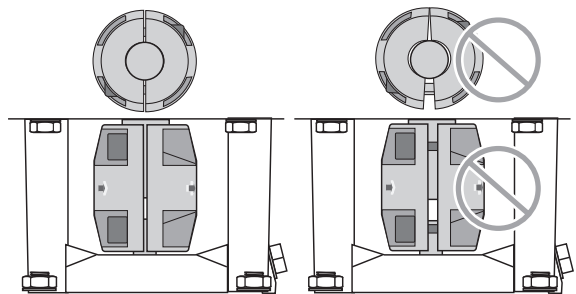

Figure 8 - Make Sure that the coupling halves are evenly tightened
13. Reinstall the coupling (43) on the pump and motor shaft. If the pump has a shaft pin, the pin axially locates the pump shaft. If the pump does not have a shaft pin, then set the coupling so that it grips equal lengths of the pump and motor shaft.
14. Tighten the coupling's socket head cap screws (73). **Note:** Torque settings are critical to prevent coupling movement. If the coupling is not tightened to the correct torque, it could slip on the shaft and overheat and damage both the coupling and the shaft. Refer to Table III, for torque specifications. Be sure to tighten the two halves of the coupling evenly (Figure 8).